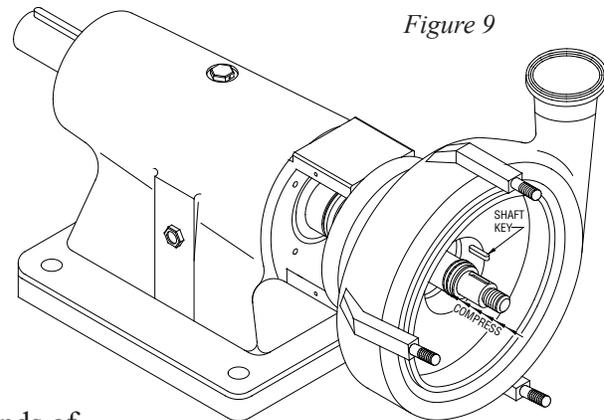

Figure 9
g) Compress the seal spring (38) by pushing on the front seal driver (40) and lift out the key (16) (**Figure 9**). (You may find it easier to rotate the keyway to the bottom of the shaft, compress the seal spring and let the key drop out.)